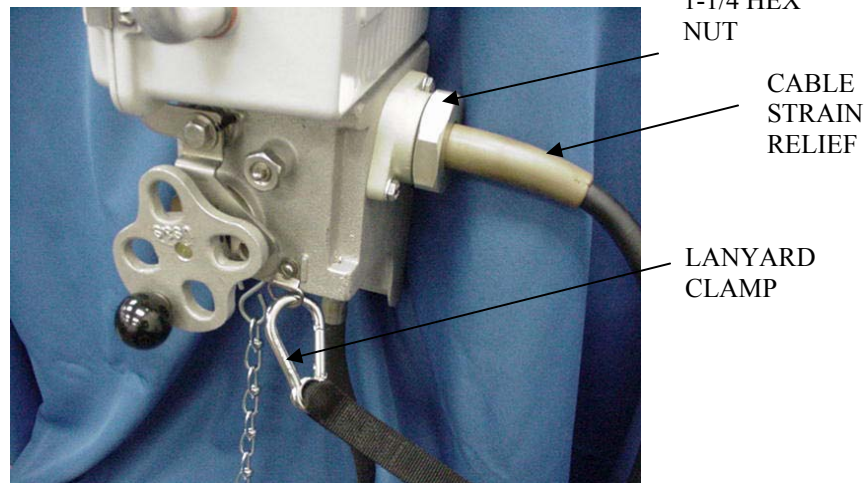

Figure 9
1. Release LANYARD CLAMP from coupler body. See Figure 9.
3. Fully loosen 1-1/4 HEX NUT with wrench, while preventing cable from rotating. See Figure 9.